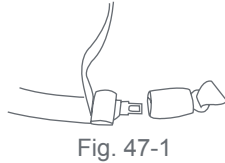

Fig. 47-1
- A lap/shoulder combination belt with a locking buckle is tightened by pulling upward on the shoulder portion of the seat belt while pushing down hard on the Safety Seat or Base. If you experience difficulty tightening the seat belt, unbuckle the seat belt, tighten the seat belt a small amount and re-buckle the seat belt. Repeat this procedure until the seat belt is very tight around the Safety Seat (Fig. 47-1).